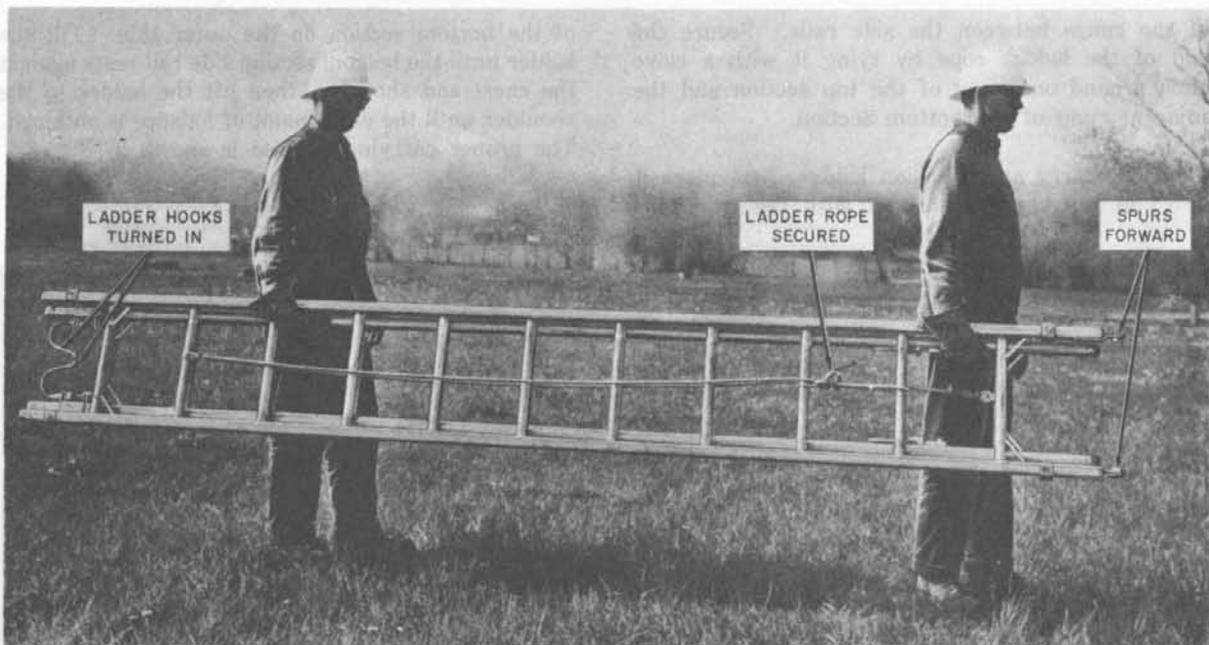

Fig. 34—Two-Man Method of Carrying Ladder
- 9.09** To pick up a ladder, the two men take positions at opposite ends and, lifting together, lift the ladder to the position shown in Fig. 34. Carry the ladder with spurs forward.